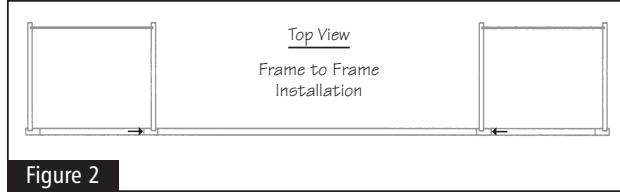

Figure 2
- 3 Drill two pilot holes through each frame vertical on both cabinets that the valance will be attached using a 3/16" drill bit. See Figure 2.